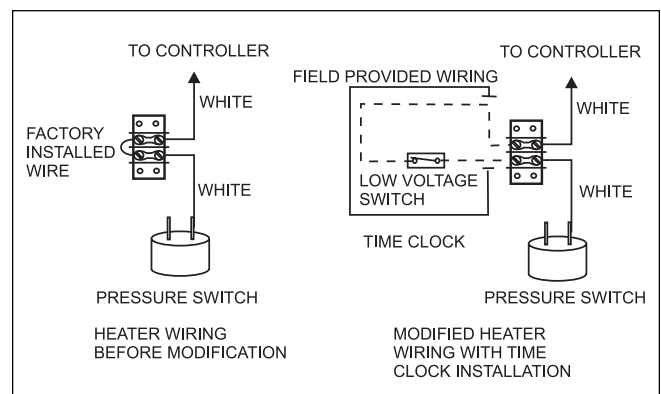

Figure 20. Typical Time Clock Wiring
3. Connect the low voltage wires from the time clock auxiliary switch to the two terminals. Use American Wire Gage (AWG) No. 14 gauge stranded copper wire with a temperature rating of 221°F (105°C) or greater (see Figure 20).